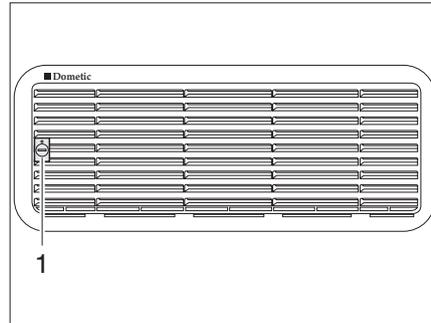
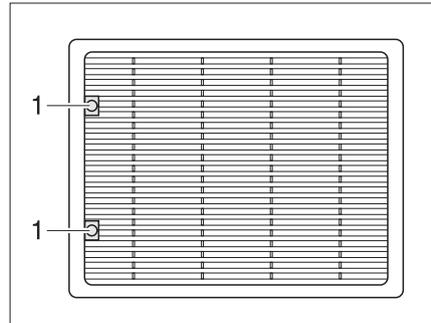

Fig. 86 Refrigerator ventilation grill (Dometic small)
Fig. 87 Refrigerator ventilation grill (Dometic large)
- ▶ Turn screw (Fig. 86,1 or Fig. 87,1) one quarter of a turn using a coin.